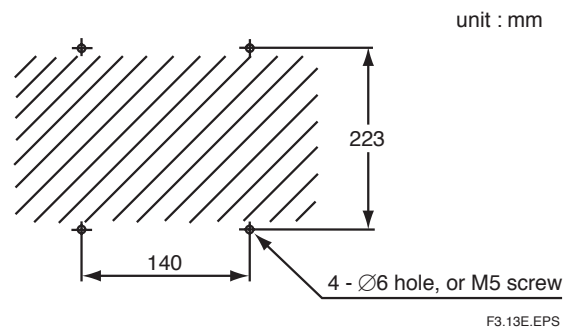

Figure 3.4 Mounting holes
(1) Make a hole in the wall as illustrated in Figure 3.4.